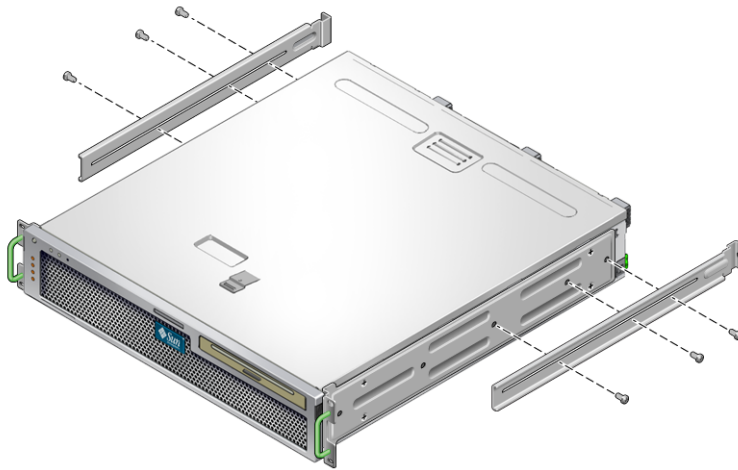

FIGURE 2-3 Attaching the Rear Mount Support Brackets
5. Install the rear mount support brackets at the rear of the server, and extend the rear mount support brackets to the measured depth of the rack (FIGURE 2-3).